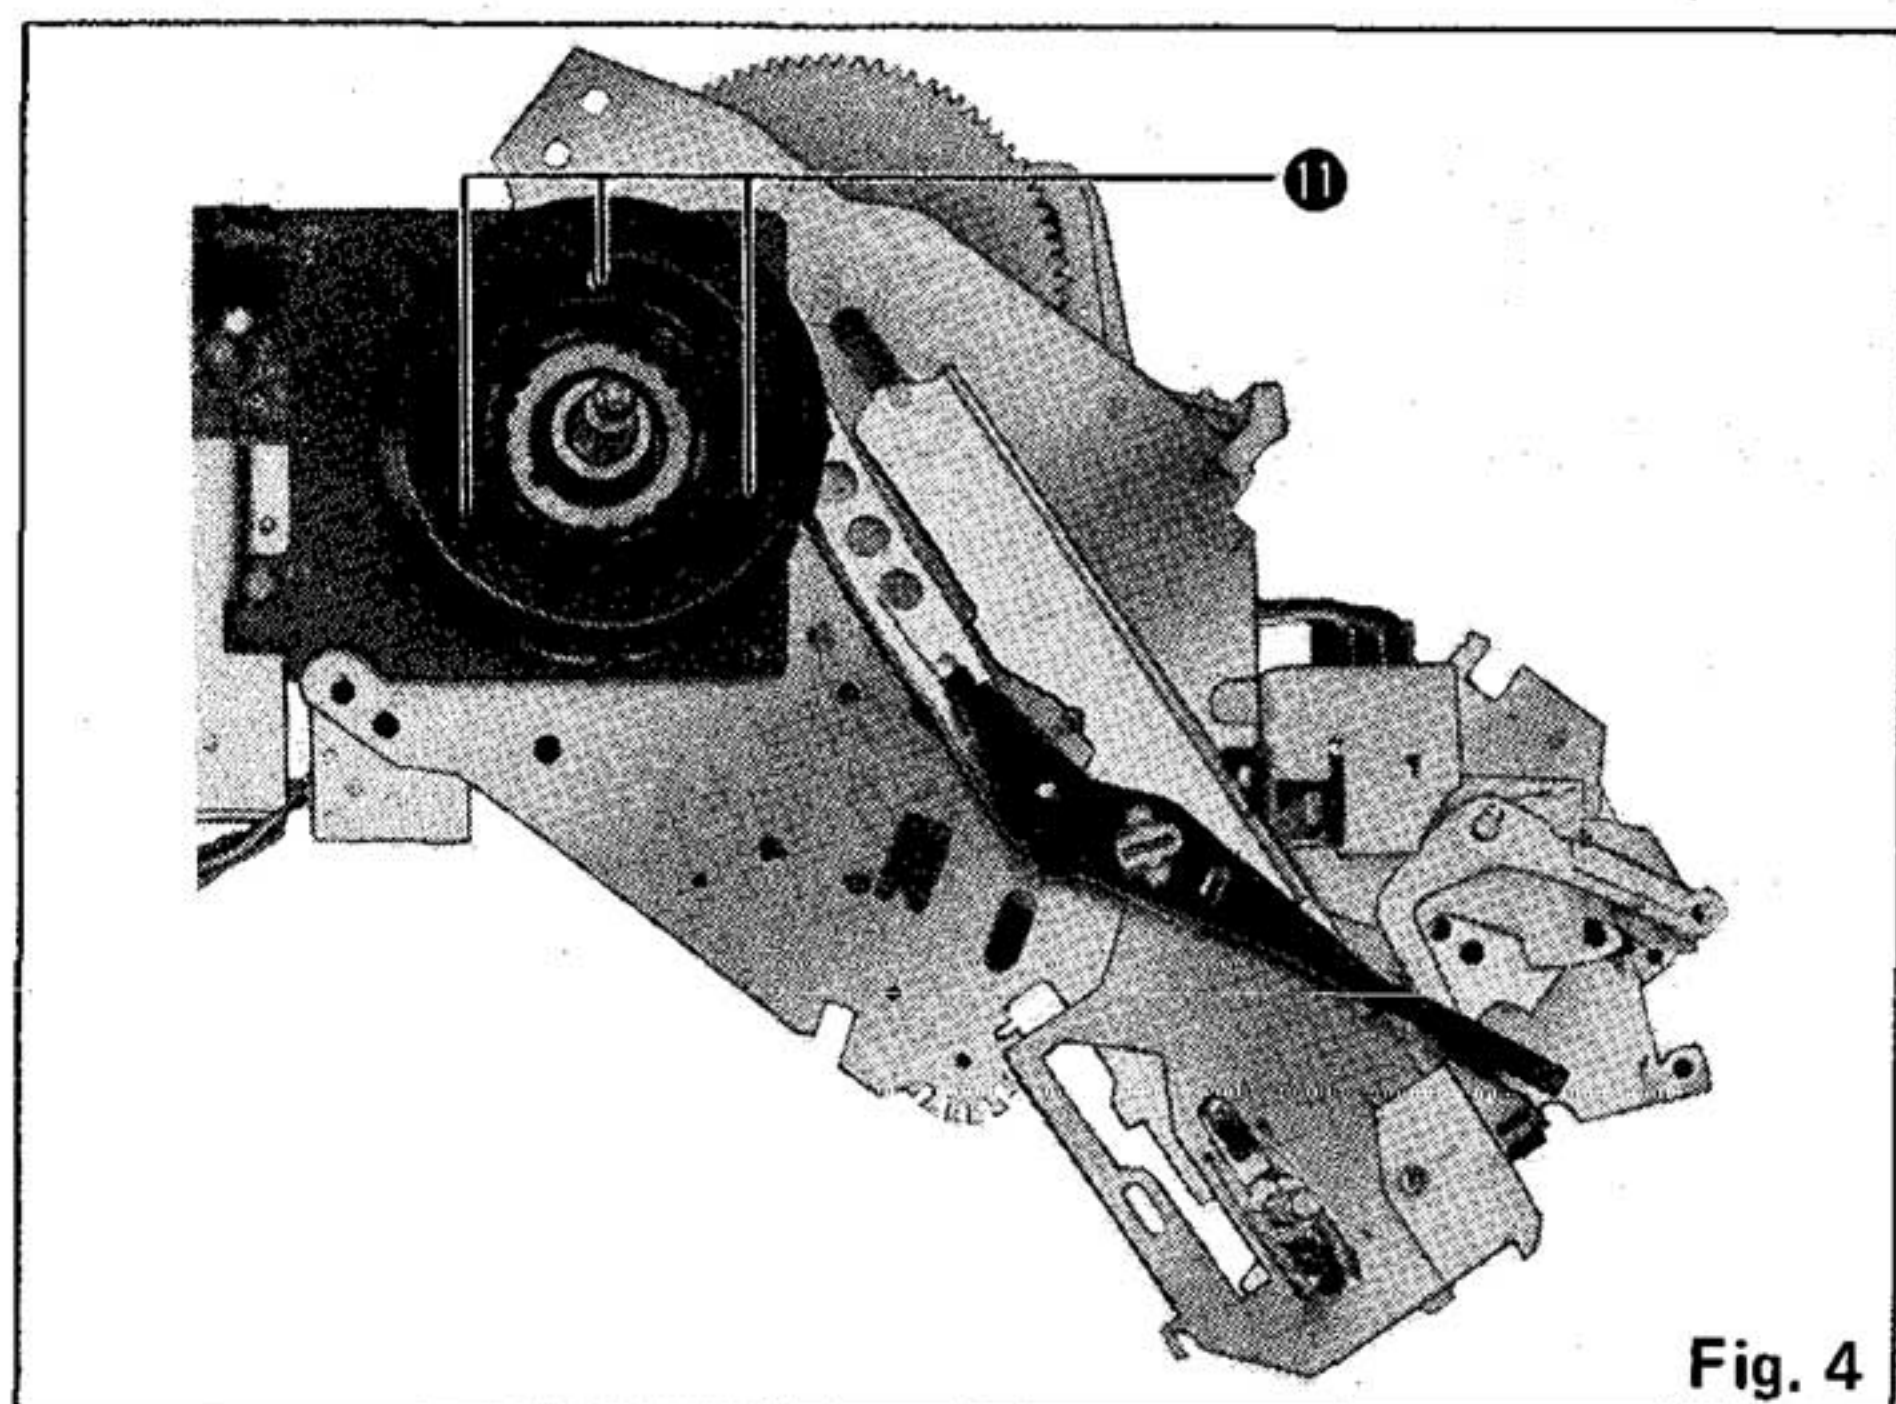

Fig. 4
3. Remove 3 setscrews ⑪ of the stater frame cover, (See Fig. 4)